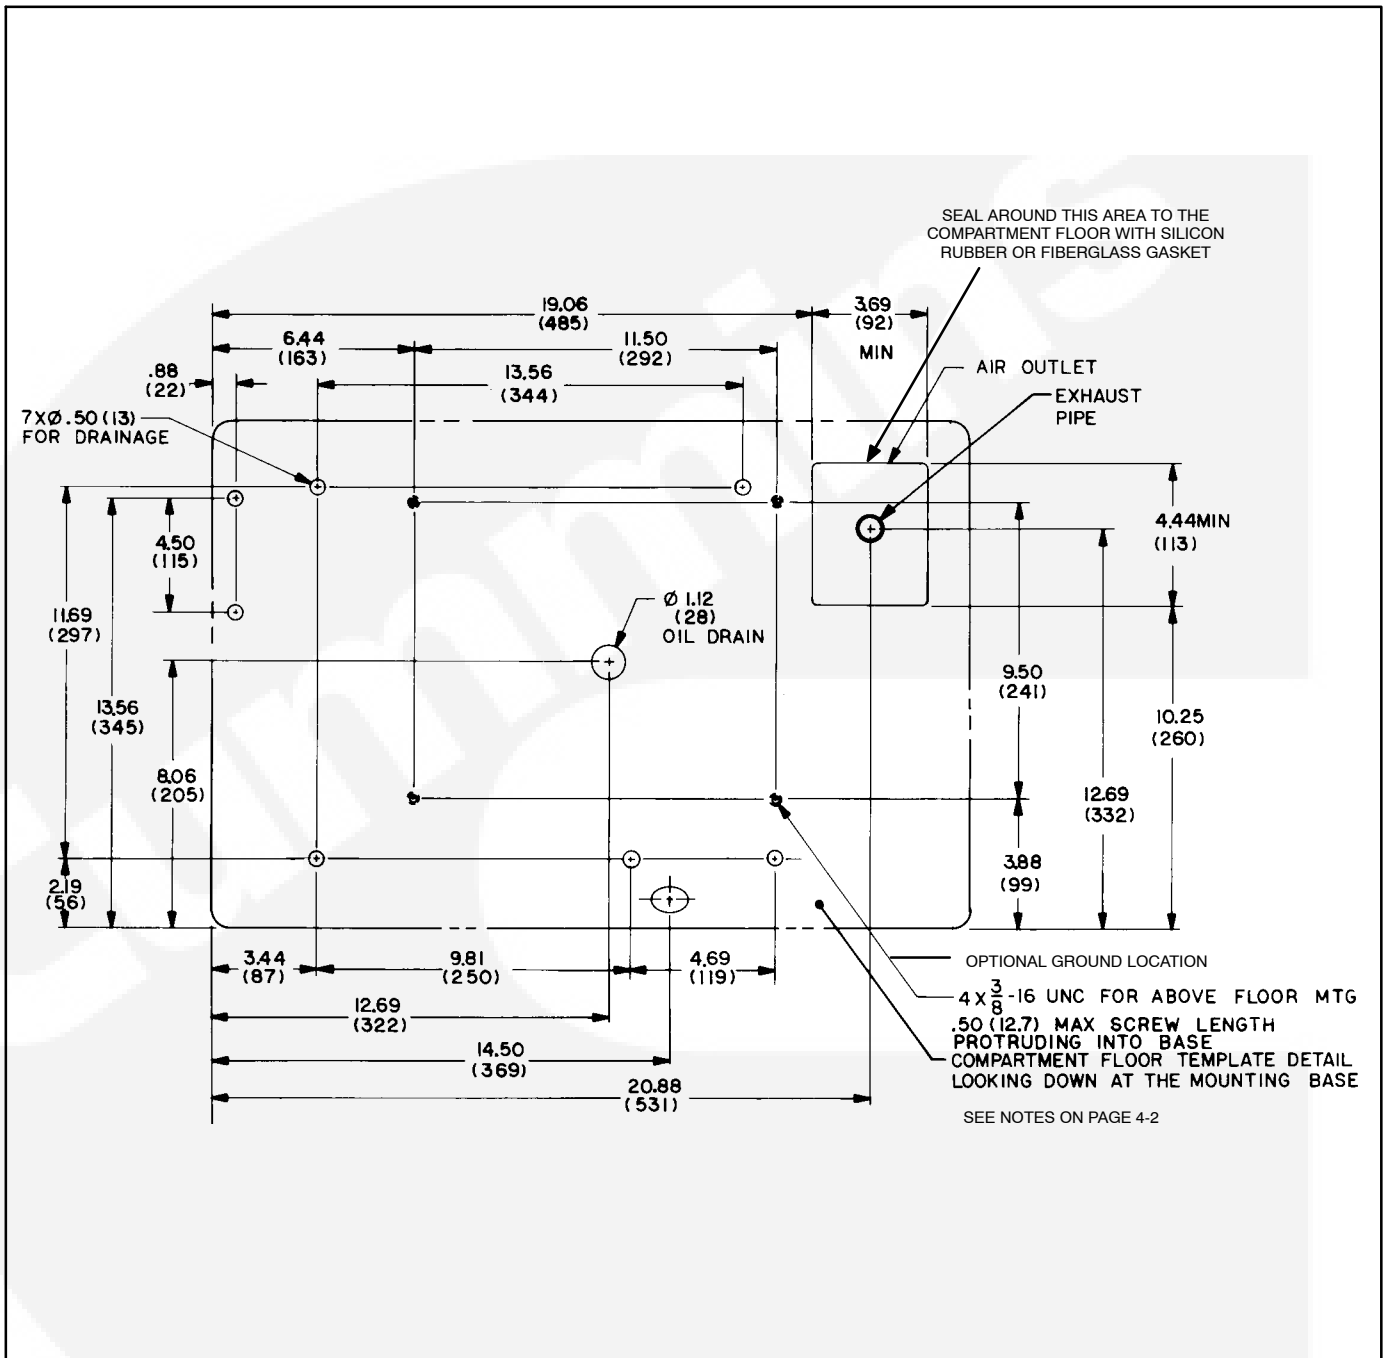

FIGURE 4-2. COMPARTMENT FLOOR PLAN
4. Construct a compartment floor that will prevent oil, fuel or water accumulation. Provide openings in the compartment floor according to the Compartment Floor Plan, Figure 4-2.